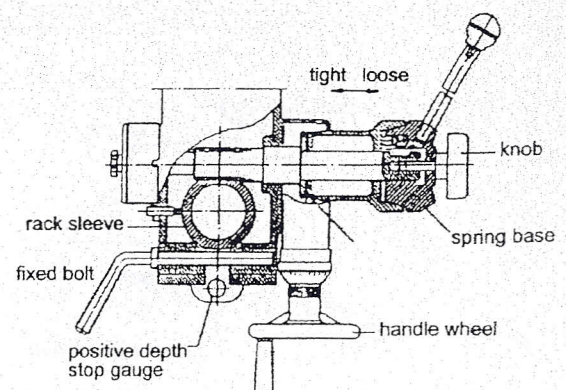

Fig.2
(1) Preparing for Drilling (see fig.2) (Except addition power feed system).
(2) Preparing for Milling (see fig.2) (Except addition power feed system).